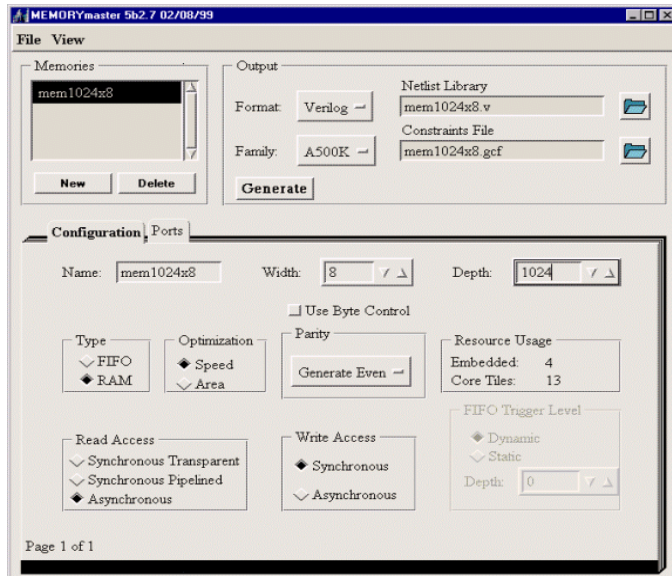

Figure 1-7. MEMORYmaster Main Window
- 9. Type 1024 as the Depth and 8 as the Width.** (After selecting the other required fields, the MEMORYmaster main window will appear as in Figure 1-7 on page 16).